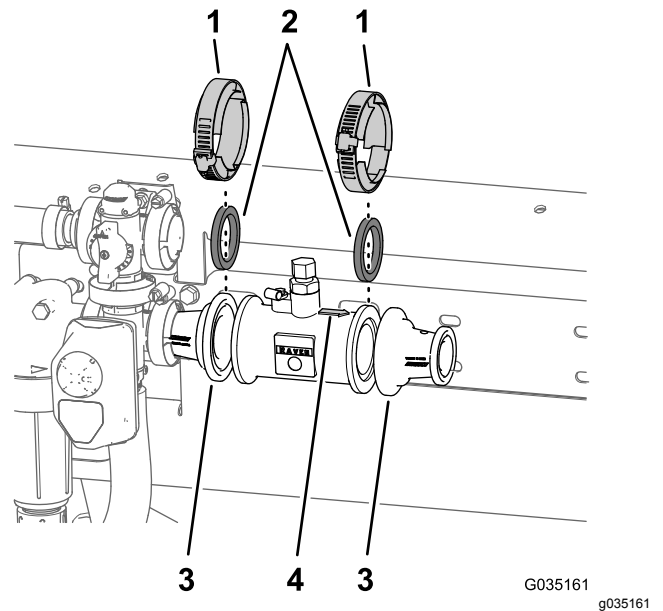

Figure 55
- A. Align the gasket (2-1/4 inches) that you removed in step 2 B of Removing the Coupling Tube and Reducer Adapter \(page 18\) between the flow meter and the reducer adapter that is installed at the right side of the master-control valve (Figure 55).
- B. Loosely assemble the gasket, flow meter, and reducer adapter (Figure 55) with a flange clamp 76 mm (3 inches) that you removed in step 2A of Removing the Coupling Tube and Reducer Adapter \(page 18\).
- C. Align the gasket (2-1/4 inches) and reducer adapter that you removed in step 2C of Removing the Coupling Tube and Reducer Adapter \(page 18\) to the end of the flow meter to which the directional arrow points (Figure 55).
- D. Assemble the gasket, flow meter, and reducer adapter (Figure 55) with a flange clamp 76 mm (3 inches) that you removed in step 2A of Removing the Coupling Tube and Reducer Adapter \(page 18\).